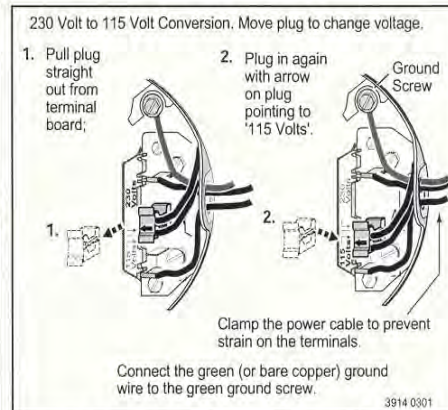

Figure 6: Motor wiring connection, Spade Connector
To Convert from 230 Volts to 115 Volts, Spade Connector type (see Figure 6).
3. Connect the green (or bare copper) ground wire to the green ground screw first (see Figure 6). Use a solid copper wire at least as large as the power supply wires.